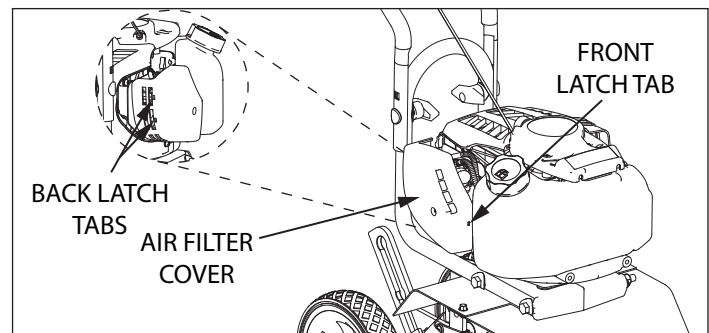

FIGURE 10
2. To remove air filter cover, unscrew the cover bolt with a screw driver and gently pop out the front latch tab. The cover then can be slid off the back latch tabs and away from the engine. **SEE FIGURE 10**